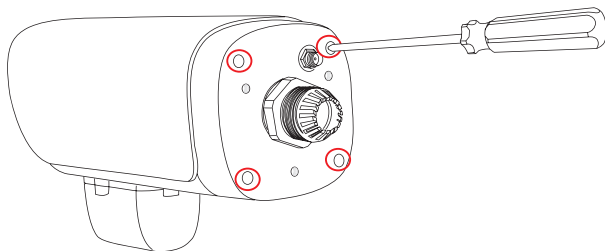

Fig. 1
1. Loosen the four screws on the backplate of your camera and put it aside. (See Fig.1)